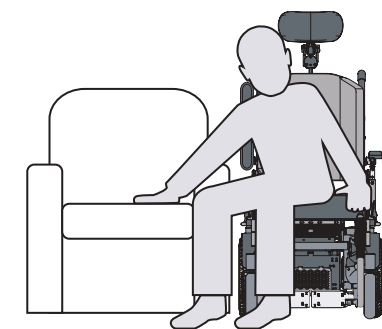

Figure 1. Use caution when transferring to and from your wheelchair.
4. Learn how to position your body and how to support yourself during a transfer. (See Fig.1 below for recommended transfer position).